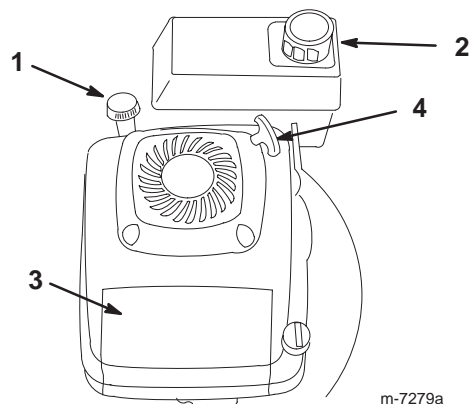

Figure 7
1. Clean around the fuel tank cap (Fig. 7).
- Pull the starter handle (Fig. 7) lightly until you feel resistance, then pull it sharply. Allow the rope to return slowly.